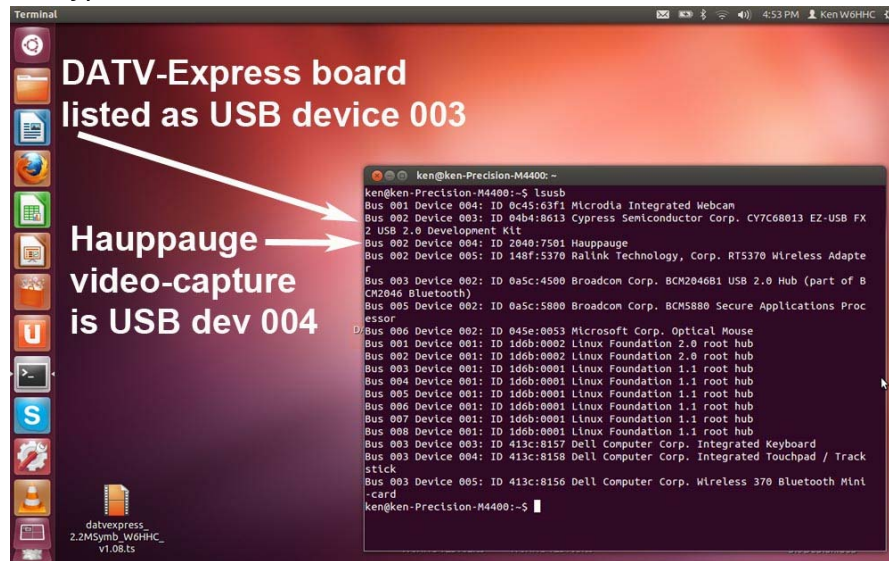

Figure 17 – Terminal mode window showing typical “lsusb” listing that contains both hardware board and Hauppauge video-capture
- **Figure 17** shows a typical successful list of USB devices.
- If you will be using a nearby-STB or receiver to display the video, then connect another small bent piece of wire to act as a one-quarter-wave vertical antenna for the receiver (see **Figure 17**).